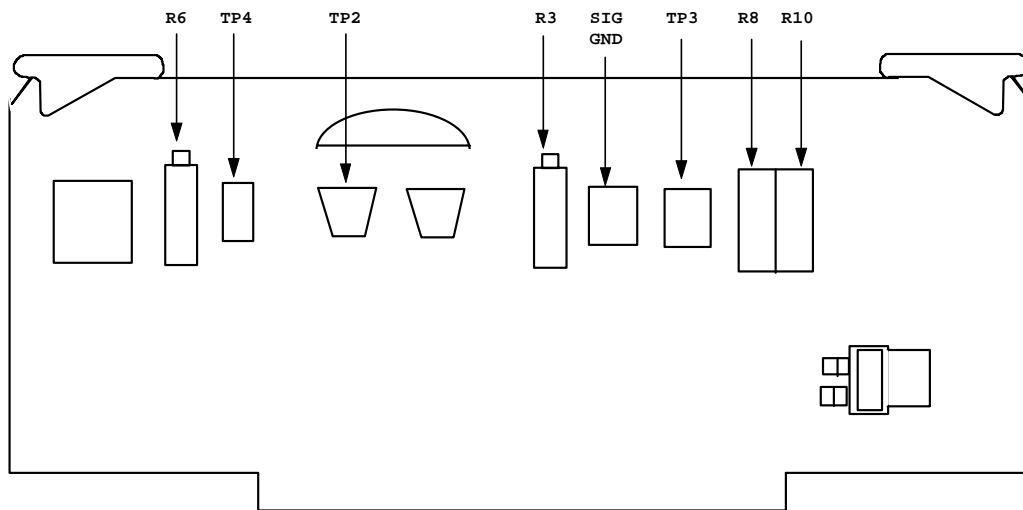

Figure 4. Calibrator circuit board test and adjustment points.
(2) Remove jumper from test point TP2 (fig. 4) on calibrator circuit board.
(3) Disconnect J14 from P14 (located on left side of circuit board cage).
(4) Connect calibrator **OUTPUT** positive to the negative connectors of J14 and **OUTPUT** negative to the positive connectors of J14. Connect multimeter to TP2 (+) and TP4 on calibrator circuit board (fig. 4).
(5) Refer to table 3 and adjust calibrator to millivolt value corresponding to ambient temperature recorded in (1) above.
(6) Multimeter will indicate between 7.255 and 7.295 mV dc; if not, perform **b (1)** below.
(7) Replace jumper at TP2 (fig. 4) and reconnect J14 to P14.
(8) Set **TEMPERATURE** switch to **CAL 600 °C**. If **TEMP °C** indicator does not display **600** perform **b (2)** below.
(1) Adjust R6 (fig. 4) for 7.275 mV dc indication on multimeter (R).
(2) Adjust R3 (fig. 4) for **TEMP °C** indicator display of **600** (R).